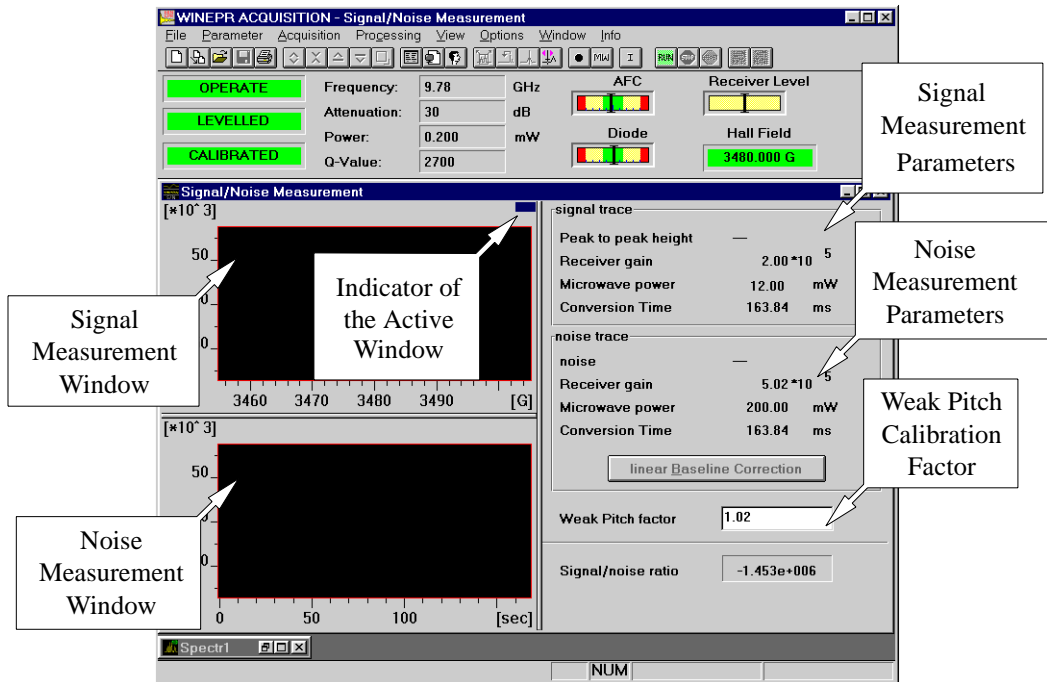

Figure 9-4 Signal/Noise Measurement Window.
Step 2. of the previous section into the Weak Pitch factor box. (See Figure 9-4.)